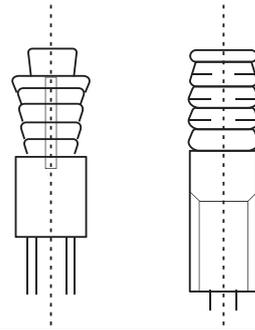

Figure 3.2
- Determine the location on the ceiling of the room or building roof for mounting, and drill four $\Phi 12\text{mm} \times 50\text{-}55\text{ mm}$ holes. Then embed and set up the expansion hook anchors (purchased accessory 4) in these holes. See Figure 3.2.